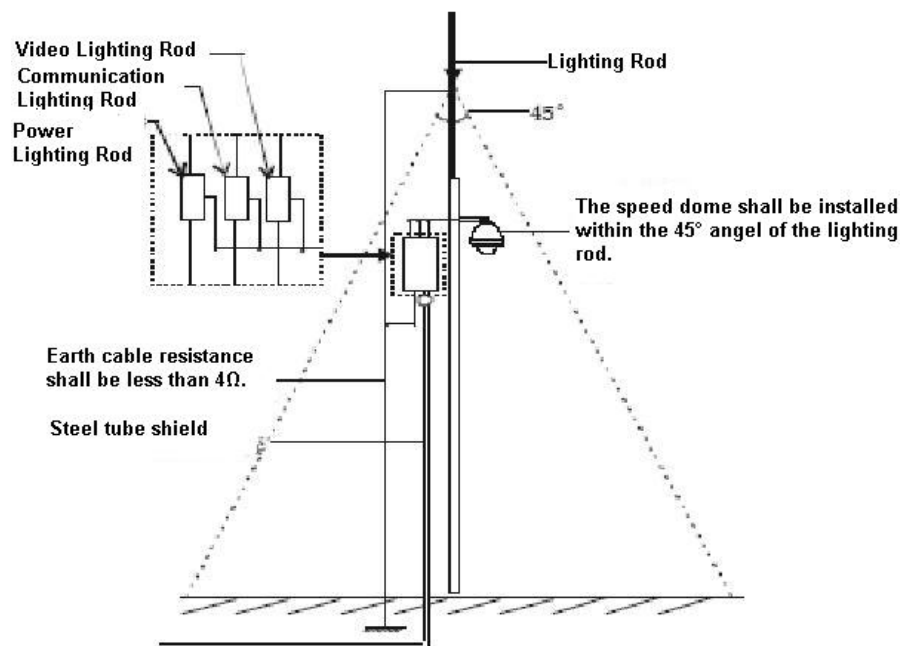

Figure 5-1
- System shall adopt equal-potential wiring. The earth device shall meet anti-jamming and at the same time conforms to your local electrical safety code. The earth device shall not short circuit to N (neutral) line of high voltage power grid or mixed with other wires. When connect the system to the earth alone, the earth resistance shall not be more than 4Ω and earth cable cross-sectional area shall below 25 mm². See Figure 5-1.